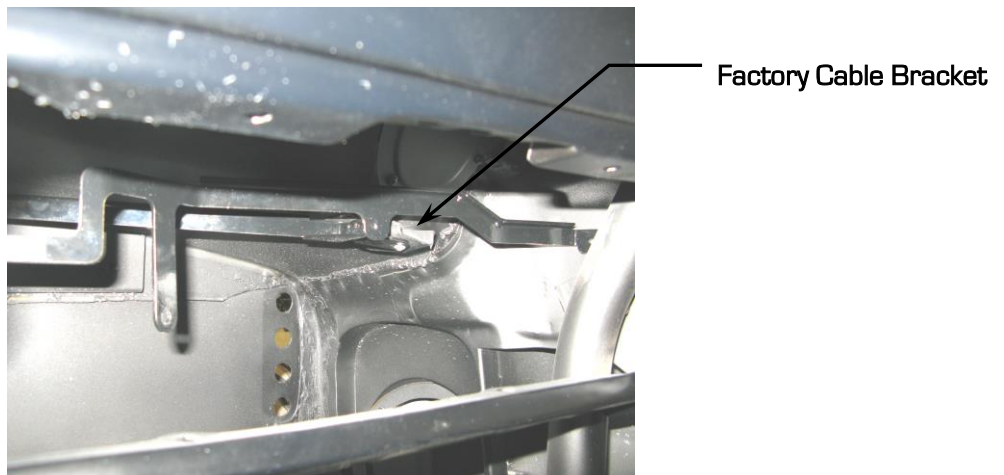

Figure 3 - Cable Bracket Attachment
- a. On a non-factory a/c car, install the provided 1/4" J-nut onto the existing cable bracket and use a 1/4"-20 x 3/4" L Hex Head Bolt and thread the bolt into the J-nut. Refer to Figure 3 below. Tighten all of the hardware at this time.